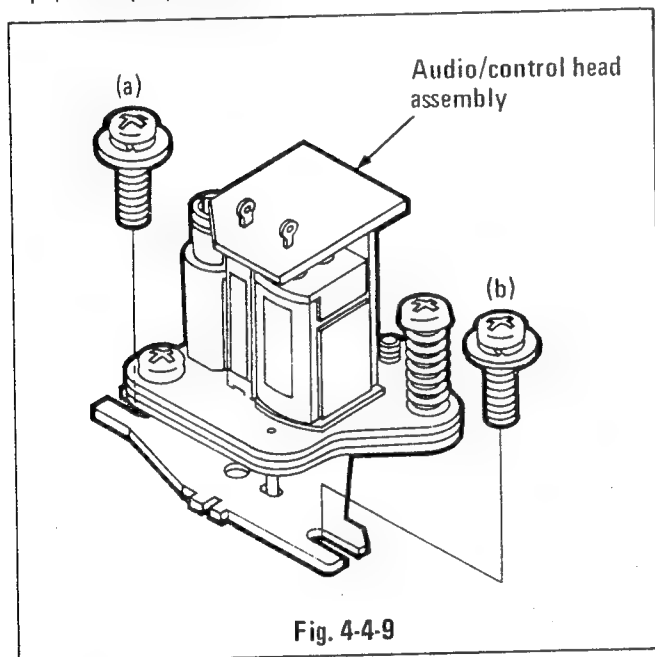

Fig. 4-4-9
9. AUDIO/CONTROL HEAD ASSEMBLY (See Fig. 4-4-9.)